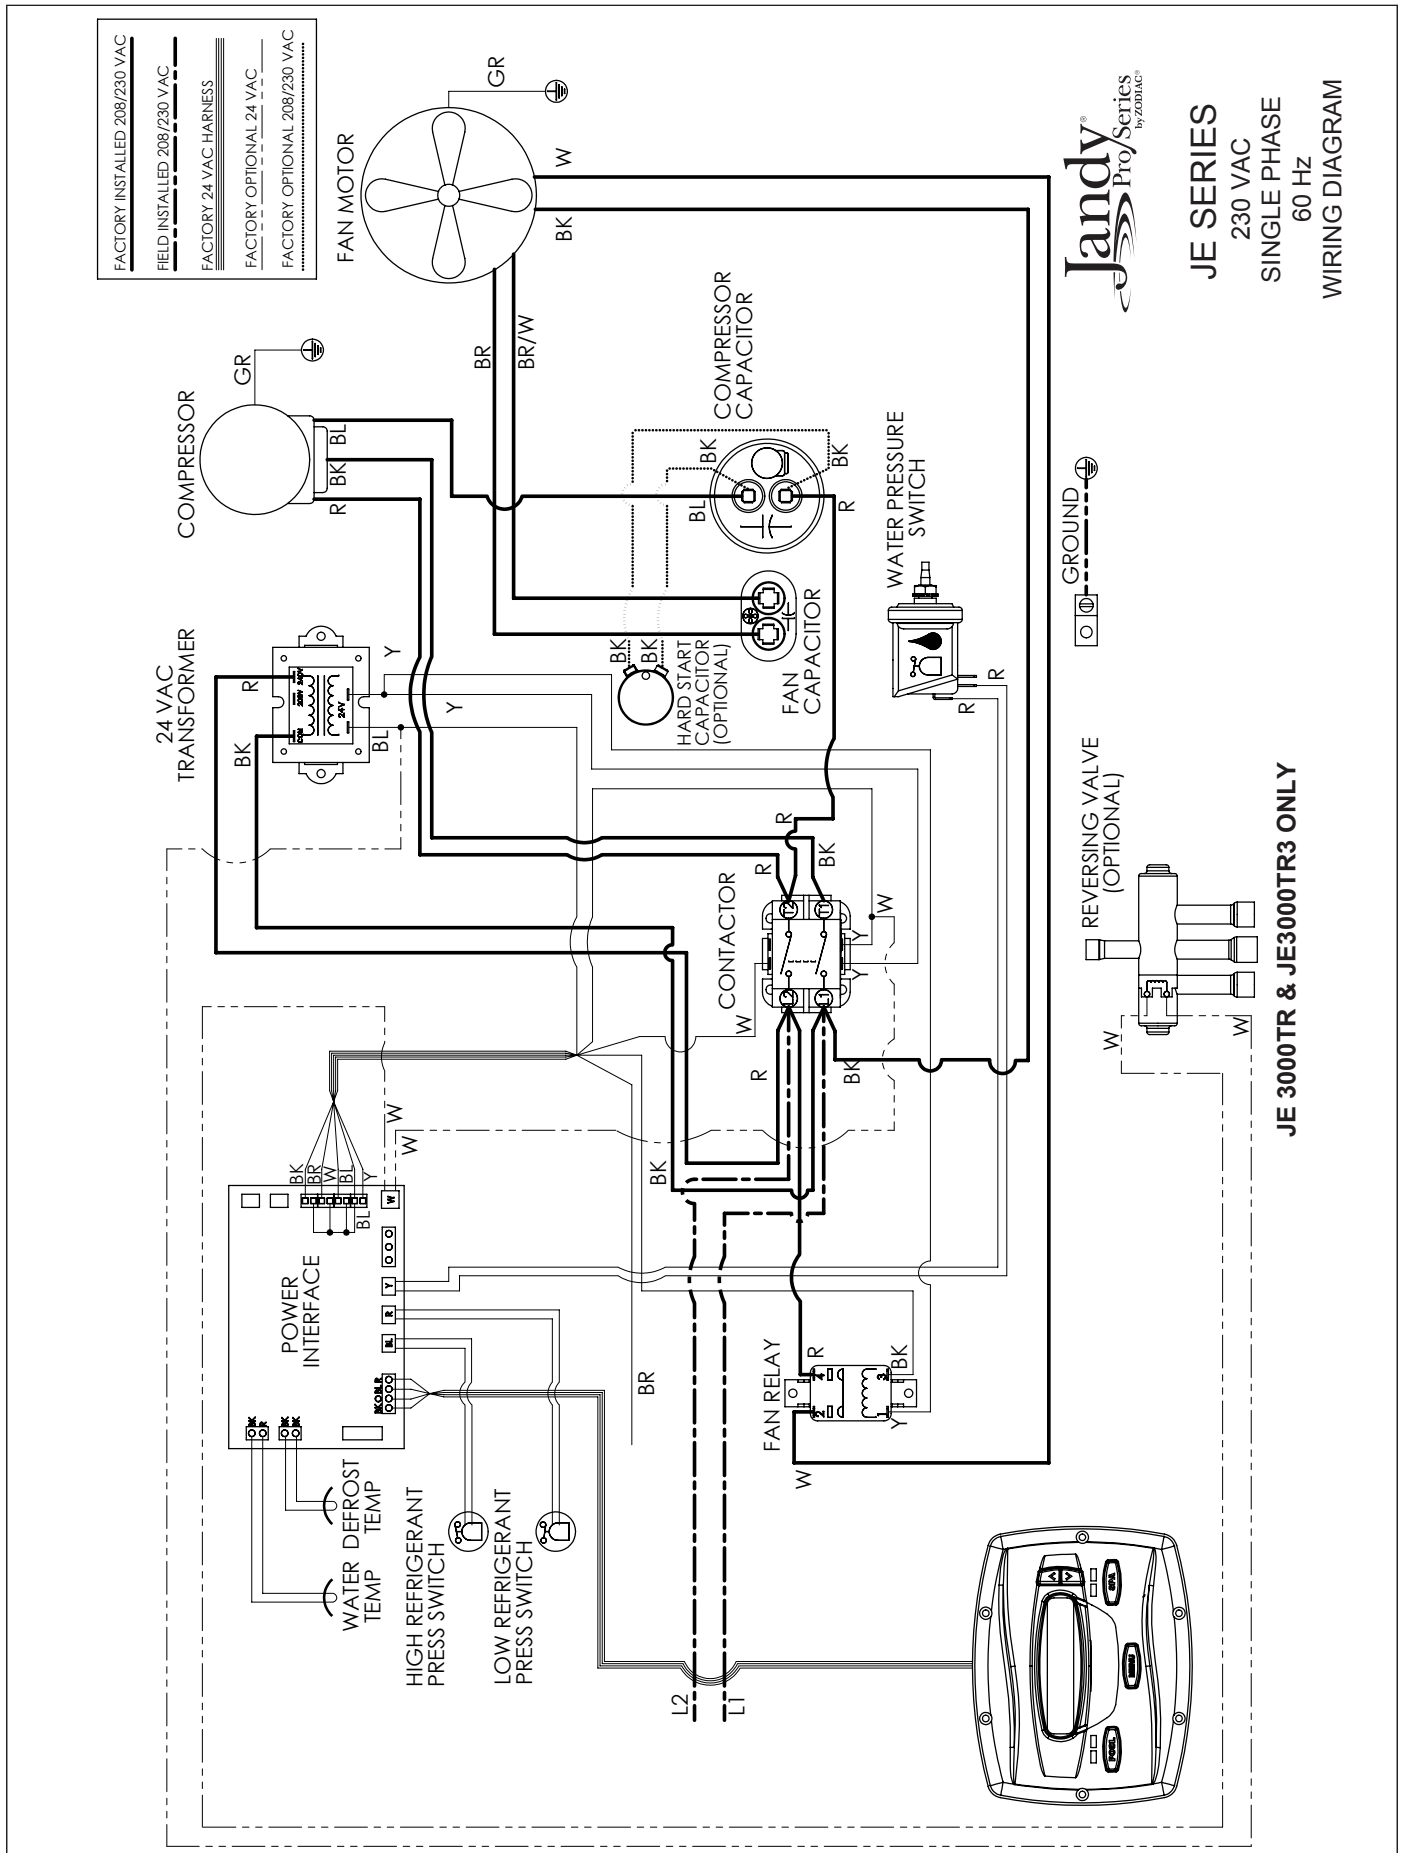
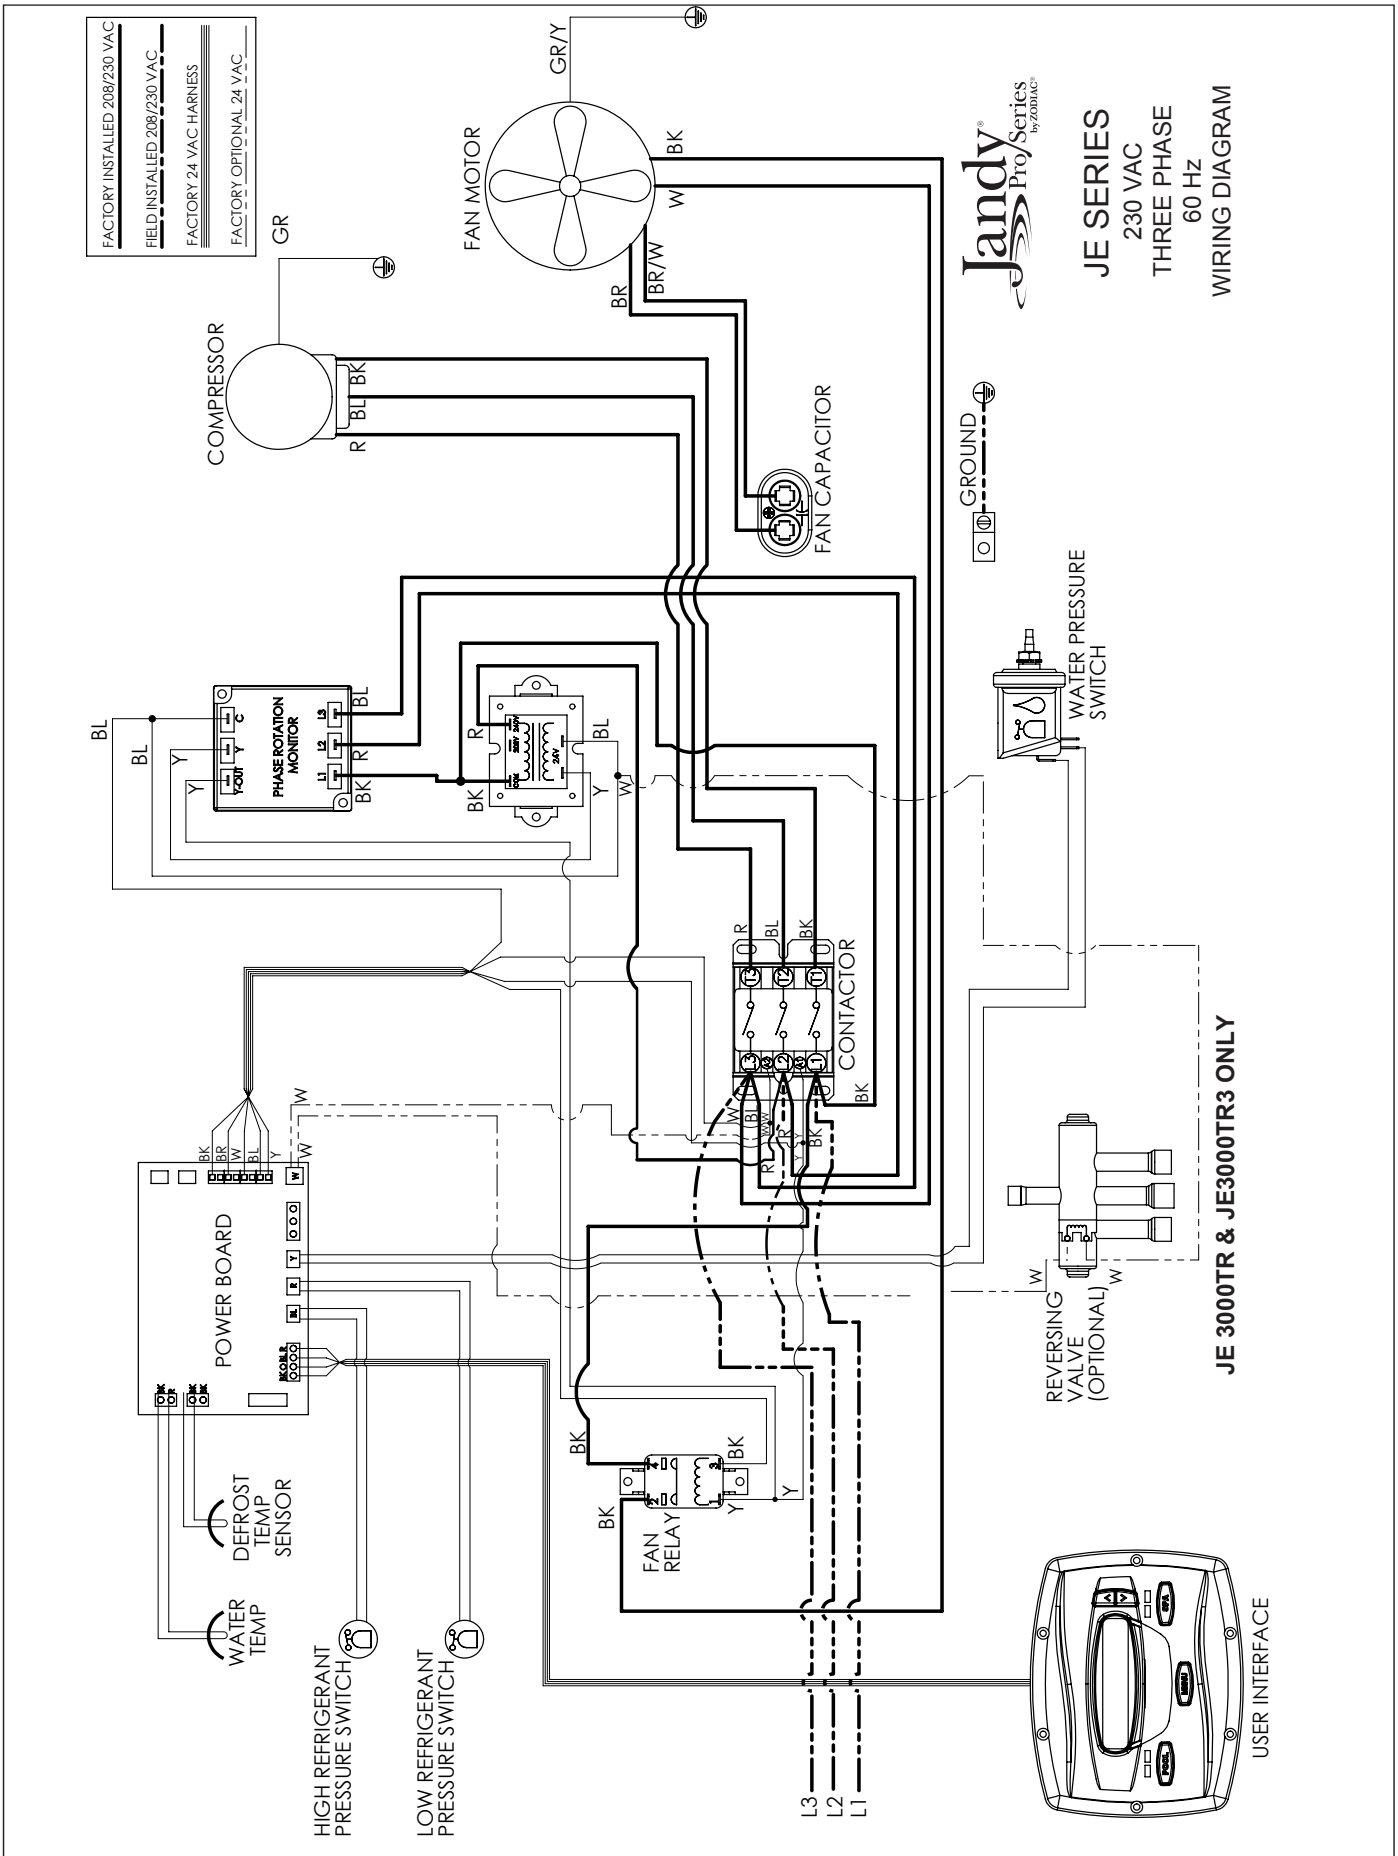

Figure 8. JE Single-Phase Electrical Supply Wiring Diagram
Figure 9. Jandy Pro Series JE 3-Phase Electrical Supply Wiring Diagram
Wiring connections must be made exactly as shown in the wiring diagram found on the inside of the heat pump access compartment (see Figure 8 for single phase electrical wiring and Figure 9 for 3-phase electrical wiring). The heat pump must include a definite means of grounding and bonding. There is a bonding lug on the right side of the heat pump, where a bond wire must be attached.
5. Connect the wires to the terminals on the main contactor as shown in the wiring diagrams. Refer to Figures 8 and 9.